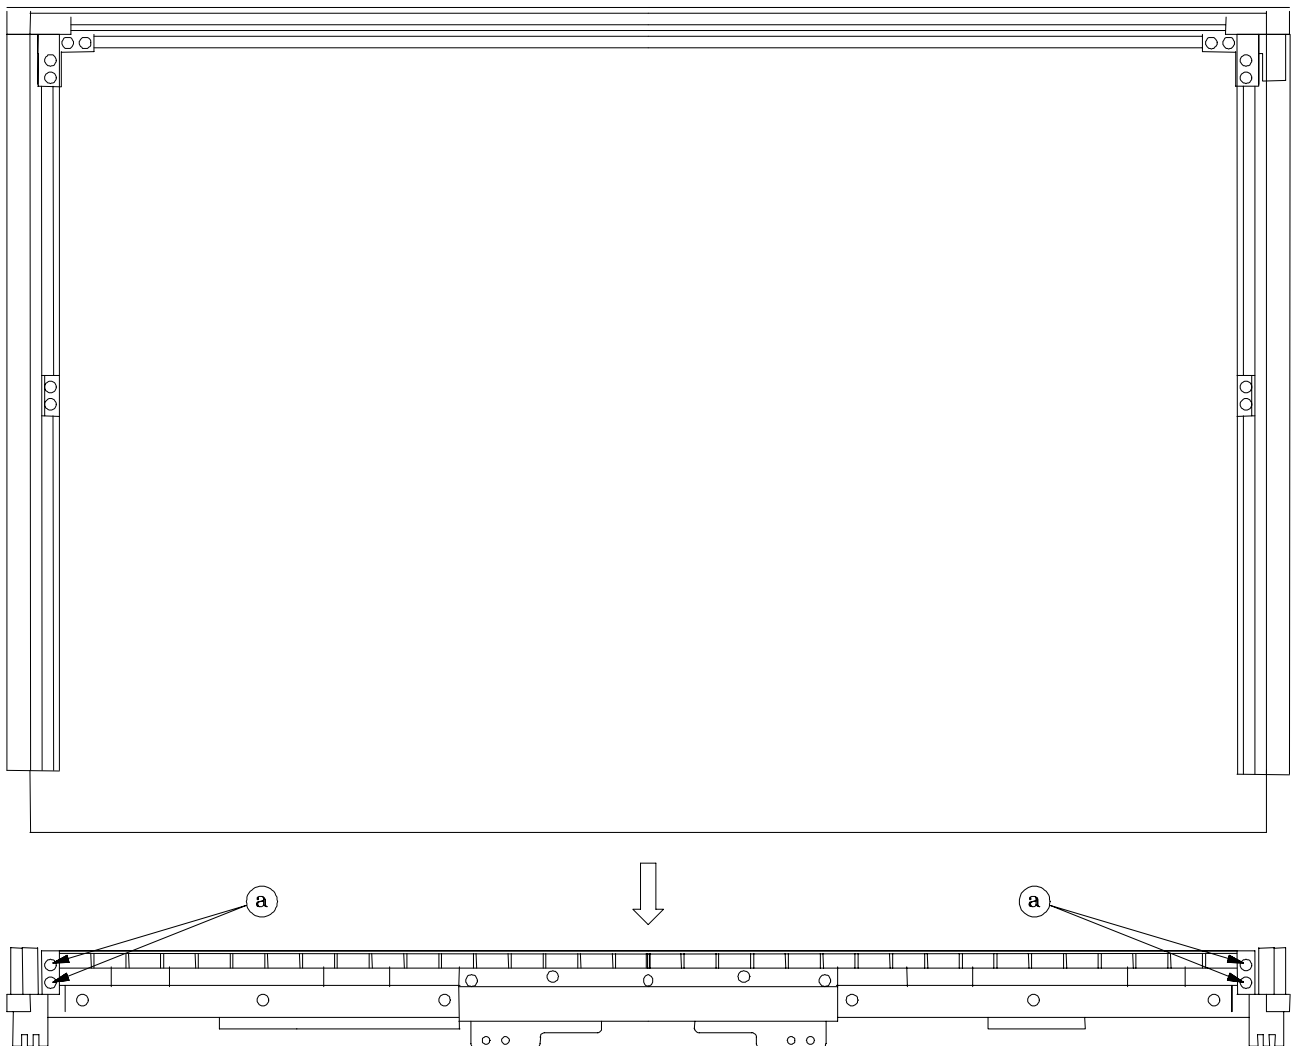

Figure 1: SCREEN-FRAME-BOTTOM Removal (Rear View)
2. Remove the four screws (a) to remove the bottom of the SCREEN-FRAME-BOTTOM . (Figure 1)